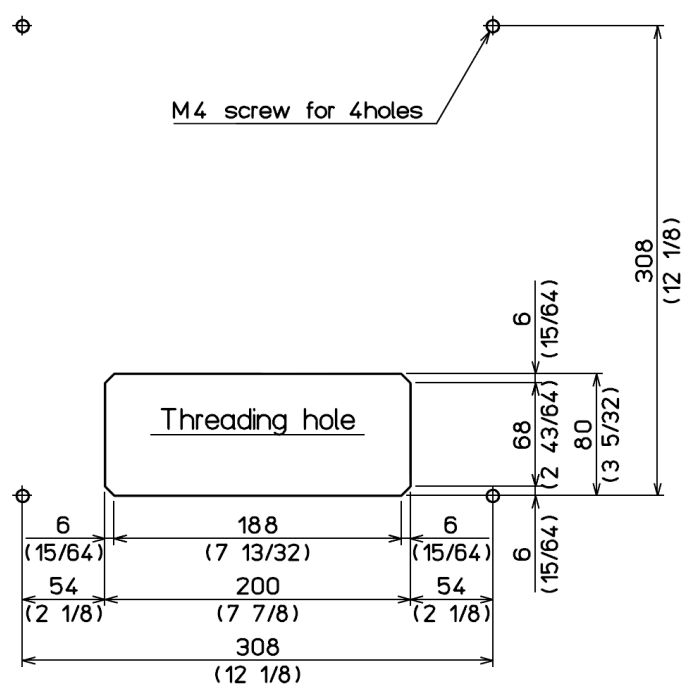

Fig. 1.10 Hole for flush-mount installation of 17 inch LCD Monitor
- (1) Make a square hole for cable at the location to be installed. (See Fig. 1.10)
- (2) Confirm that the unit matches the square hole. If not matches, correct the square hole.
- (3) Connect the connectors for power and transducer to the unit respectively.
- (4) Fix the 17 inch LCD Monitor with four tapping screws (4mm) (M4 or pan-head). (Prepare 4 mm screws suitable for thickness of installing location.)